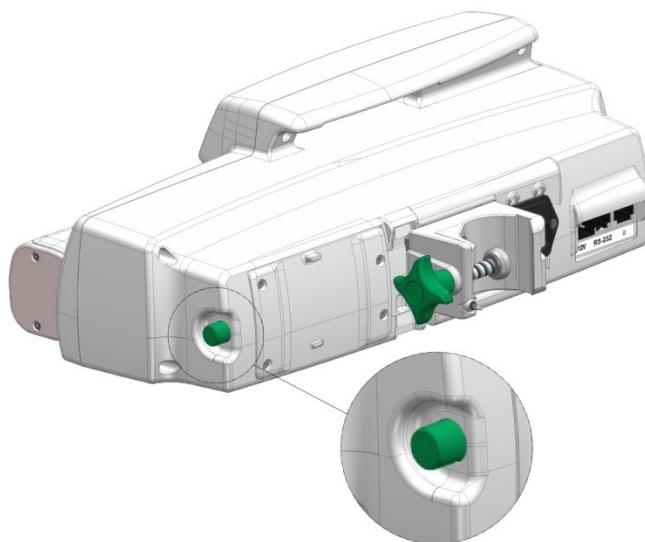

Fig. 19 Placement of the docking release button
3. Press and hold the pump release button (see Fig. 19) for approximately 10 seconds. The following alarm should be raised: **Incorrect fixing in docking station**.